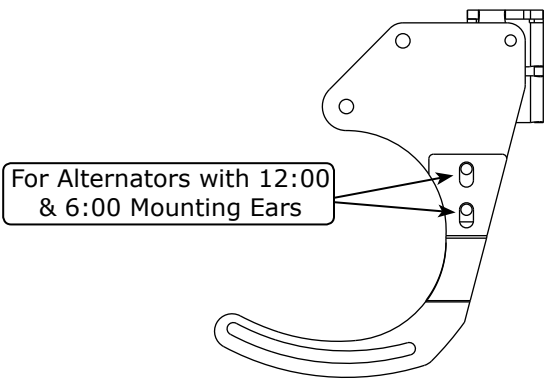
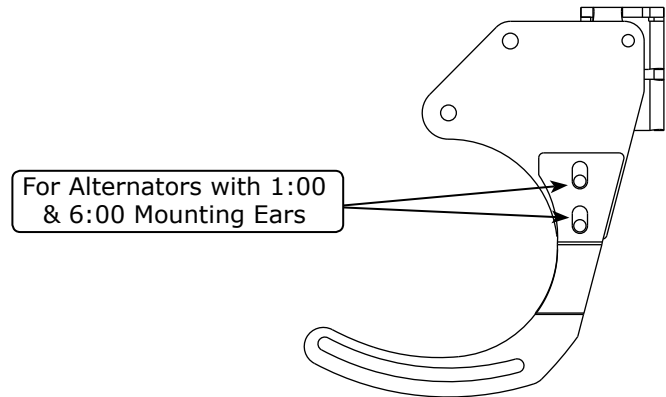

Figure 1
Figure 2
1. This bracket kit requires a harmonic balancer with (2) wide grooves. **NOTE: An add-on kit for single-groove harmonic balancers (Part # 732104) is available through Vintage Air.**
2. This bracket kit requires a water pump pulley with (2) wide grooves. **NOTE: A (2) wide-groove water pump pulley for long-nose water pumps (Part # 732109) is available through Vintage Air.**
4. This bracket kit is designed to accept OEM alternators with mounting ears at either 12:00 and 6:00 or 1:00 and 6:00. For alternators with mounting ears at 12:00 and 6:00, use the alternator adjustment bracket as shown in Figure 1, below. For alternators with mounting ears at 1:00 and 6:00, use the alternator adjustment bracket as shown in Figure 2, below.